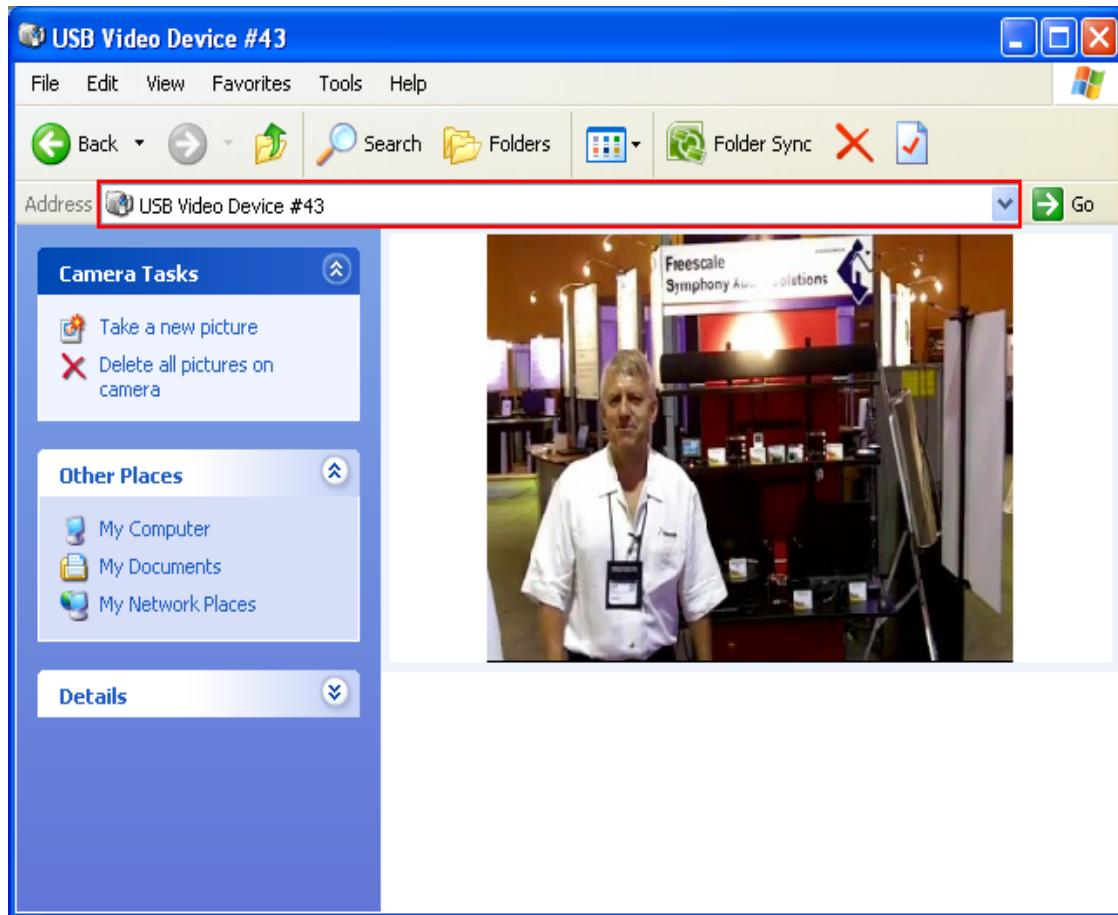

Figure J-6. Video is displayed
6. By Double-clicking on the USB Video Device icon, video is displayed as shown as shown in Figure J-6